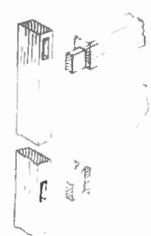

Fig. 6—Mortise joints
Further $\frac{1}{4}$ in. holes are drilled through the centre of both strips exactly midway between each block to take hooks for hanging the fitting. Immediately above two of these holes the inside flange of the outside rail should be cut away to form outlets through which the two free ends of flex are threaded (Fig. 6).
Fig. 6 is, perhaps, the stronger, but at the same time is more difficult to mark out and to cut. Glue should be used to secure the joints, with screws put in where possible. The outer ends of the rails (C) and (D) should be cut round with the fretsaw and made smooth with coarse and fine glasspaper.